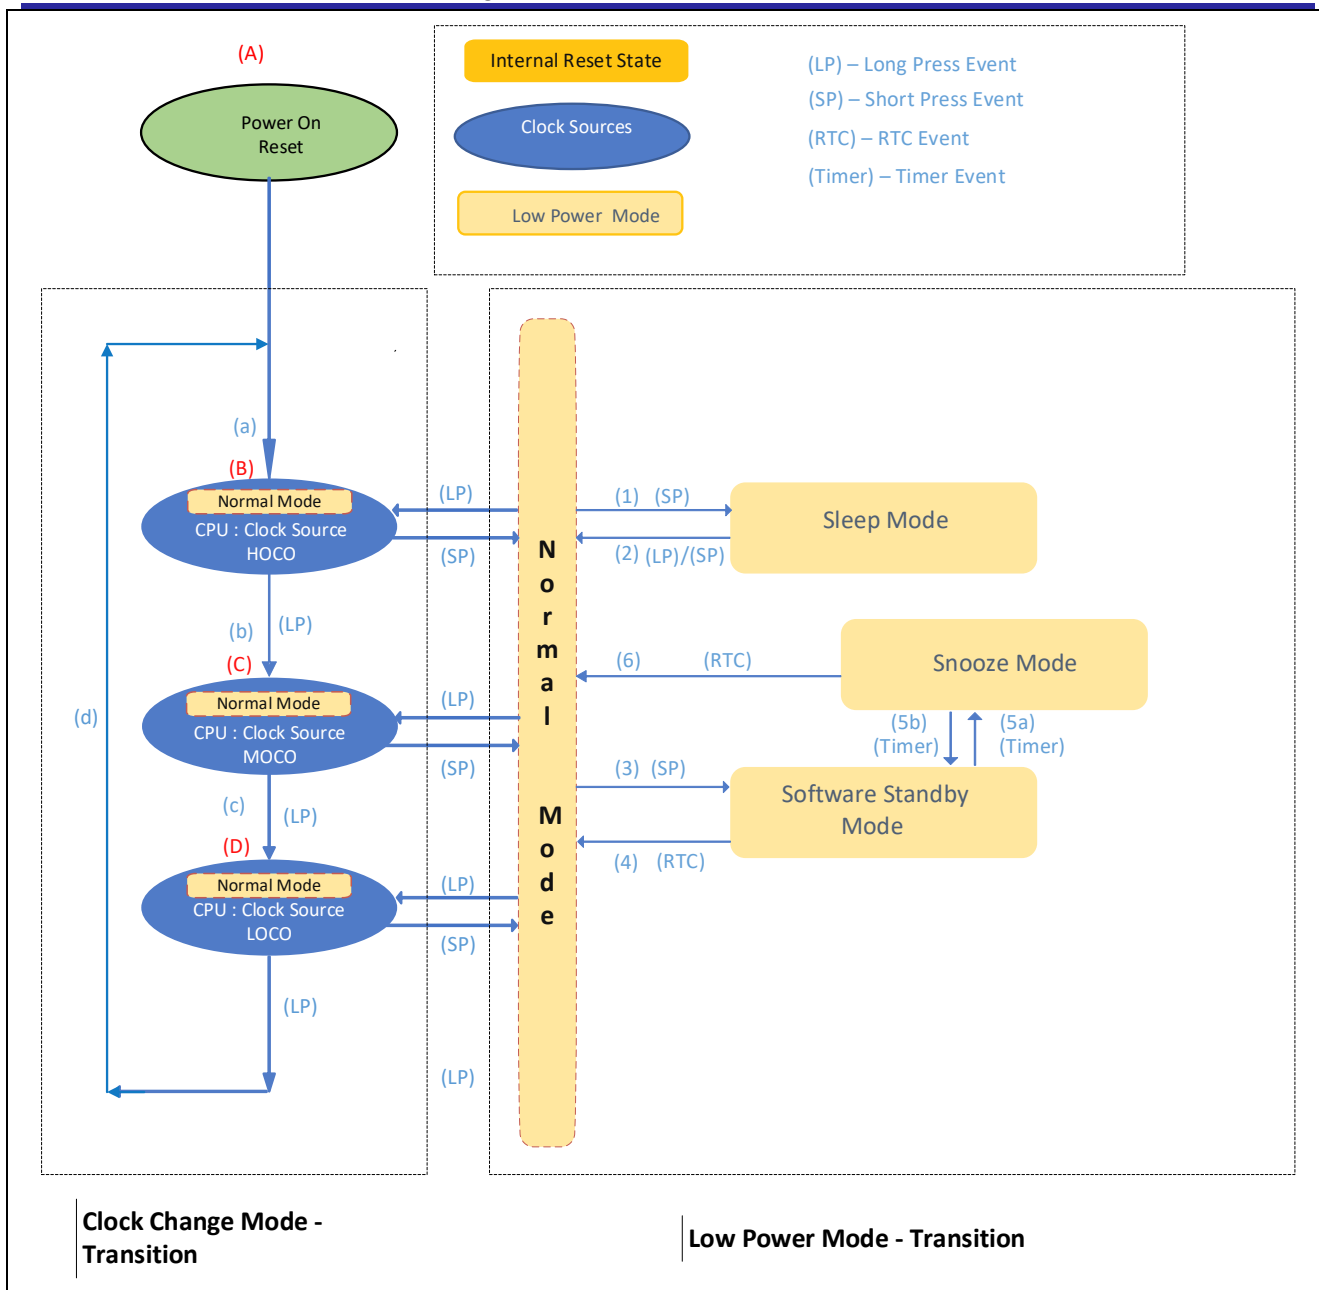

Figure 17. Clock Changing and LPM Transition
Figure 17 shows the different clock sources and the associated LPM used in the application and different transition states. The application is implemented using the event driven mechanism. In this event driven system, events can be user driven events or system generated events, which are used as the input to the finite state machine. Two separate state transition tables are used here in the application.
In the above Figure 17, the blue-colored oval-shaped blocks (B) through (D) represent the different clock states used in the application, and (a) through (d) labeled arrows are different transition paths it takes when changing the clock.
Note: The dotted block represents the Clock Change Mode transition on the left and the LPM Transition on the right, as shown in Figure 17.
Note: In the above Figure 17, for low-end RA devices (RA2XX), Sleep, Software Standby, and Snooze modes are supported.